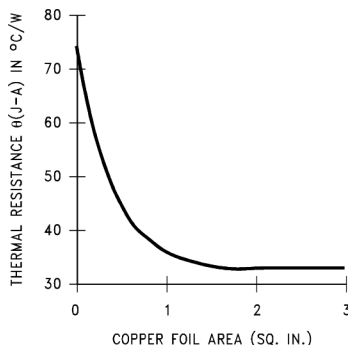

Figure 17.  $R_{\theta(JA)}$  vs. Copper (1 ounce) Area for the DDPAK/TO-263 Package
**Figure 17** shows for the DDPAK/TO-263 the measured values of  $R_{\theta(JA)}$  for different copper area sizes using a typical PCB with 1 ounce copper *and no solder mask over the copper area used for heatsinking.*
As shown in Figure 17, increasing the copper area beyond 1 square inch produces very little improvement. It should also be observed that the minimum value of  $R_{\theta(JA)}$  for the DDPAK/TO-263 package mounted to a PCB is 32°C/W.